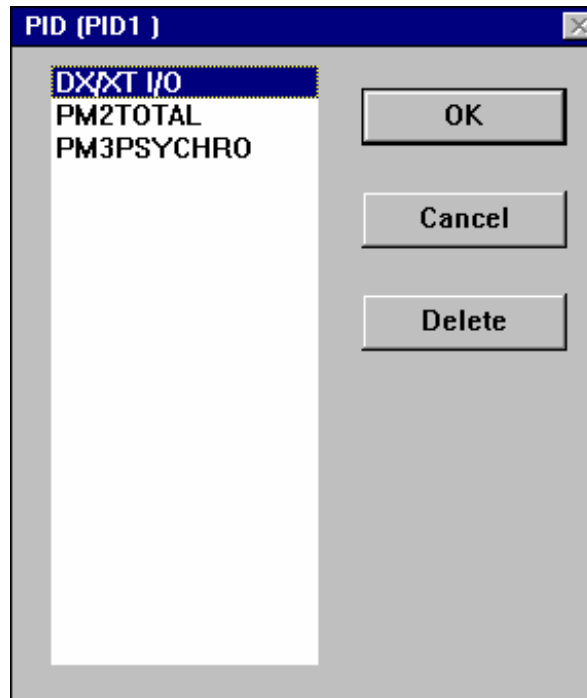

Figure 6-6: List of Valid Configuration Modules Example
4. Type an asterisk (*) in the field. A menu listing the valid configuration modules for the selected field appears (Figure 6-6).